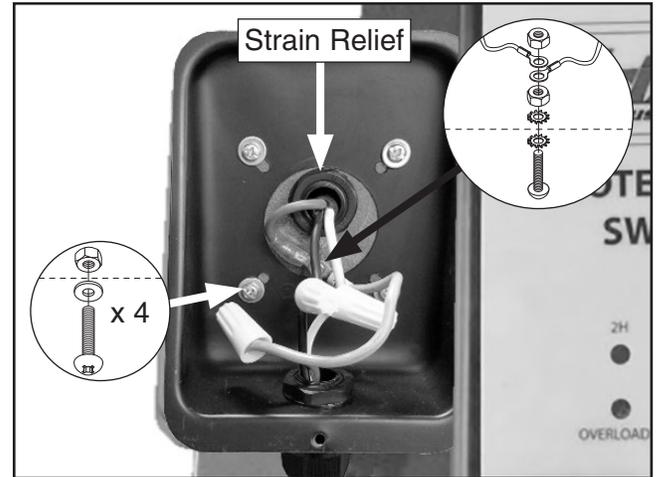

Figure 32. Inside power junction box (shown with power conduit attached for clarity).
43. Remove hex nuts, external tooth washers, and Phillips head screw securing ground wire to switch bracket (see **Figure 32**).
44. Remove strain relief shown in **Figure 32**.
45. Remove (4) Phillips head screws, flat washers, and hex nuts shown in **Figure 32** to remove junction box from switch bracket.